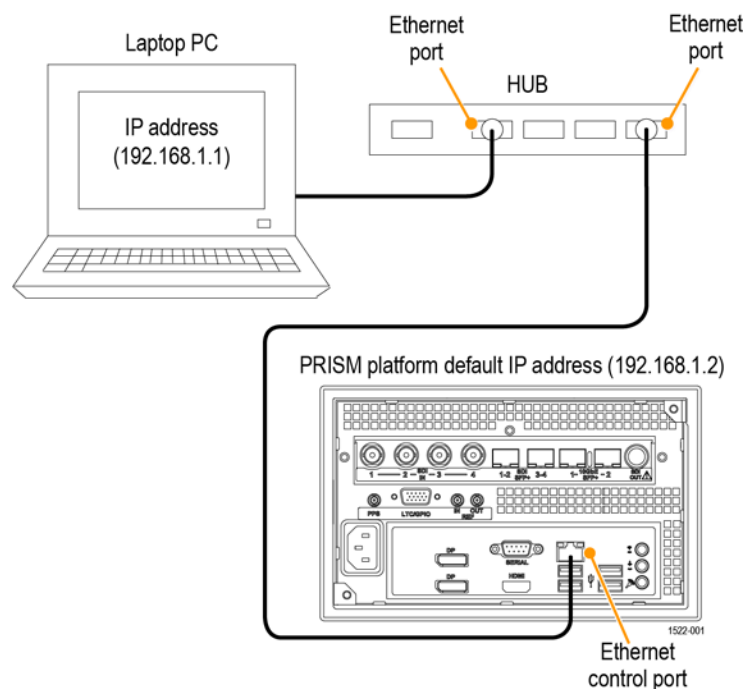

Figure 7: Connecting the instrument to a PC (MPI2-10 monitor shown)
1. Connect the instrument directly to a PC with an Ethernet cable. You can also use an Ethernet Switch. (See Figure 7.)